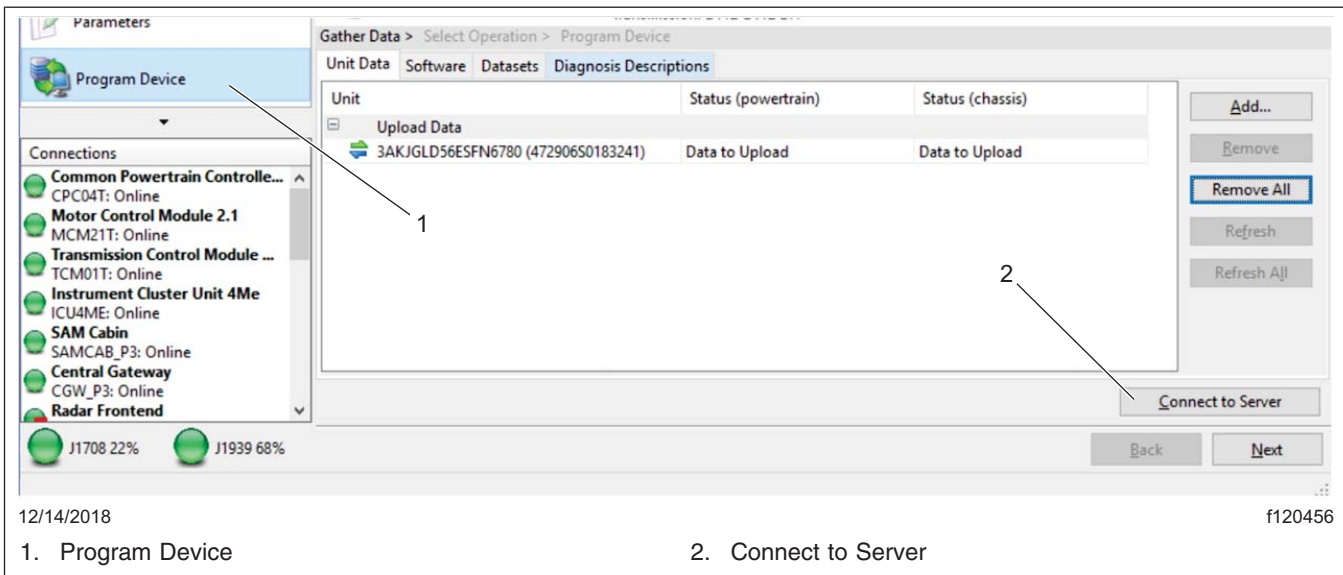

Fig. 3, Uploading Vehicle Parameters
5. Select "Program Device." There should be data to upload. Click "Connect to Server" to upload vehicle parameters to the server. See Fig. 3.